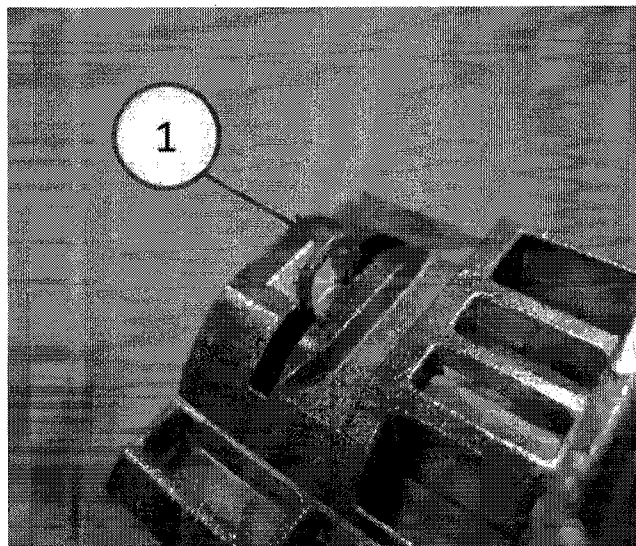

Fig. 3 Cylinder Retention Clip
5. Use a screwdriver to remove the retention clip (1) securing the lock cylinder to its housing (Fig. 3).